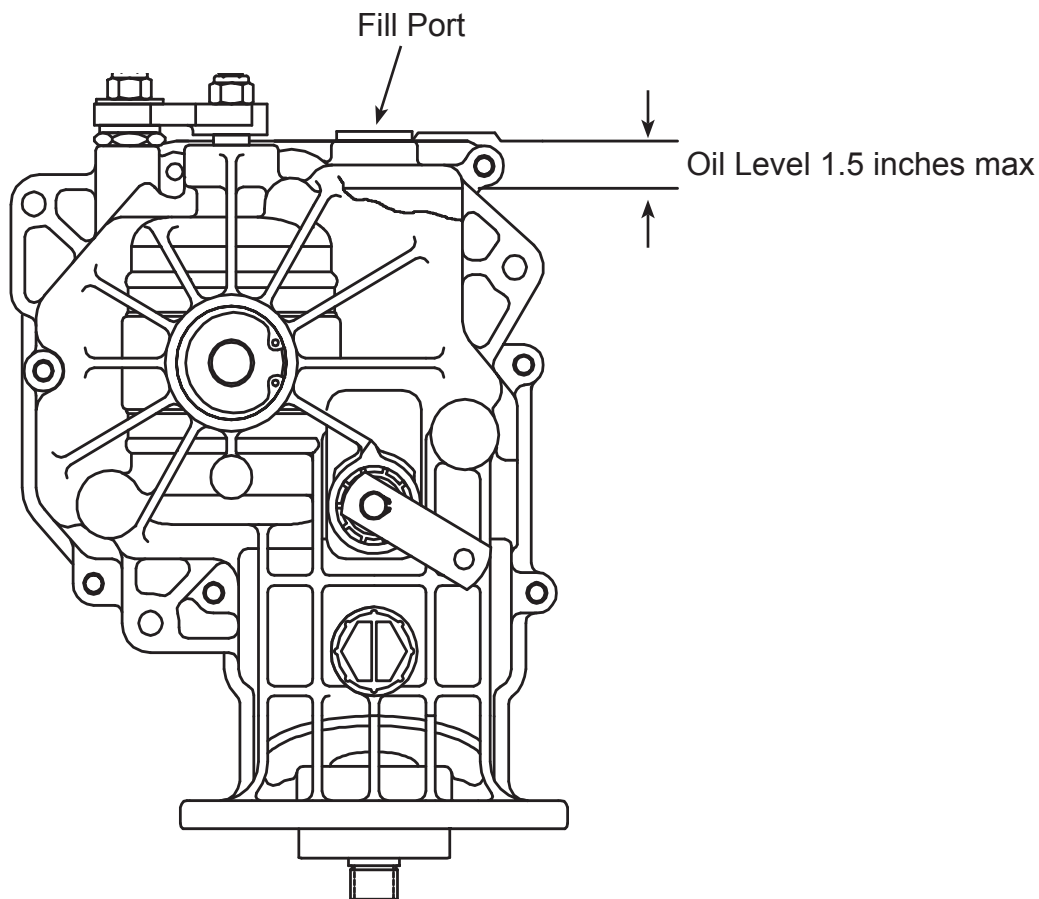

Figure 5. Oil Level
5. Fill the transmission at the oil fill port according to Figure 5.